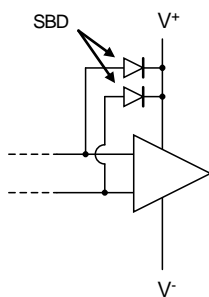

Fig.4-1
- / prevent operating of a parasitic circuit by inserting a SBD (Fig.4-1/4-2).